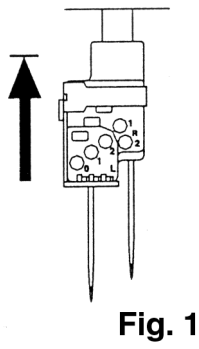
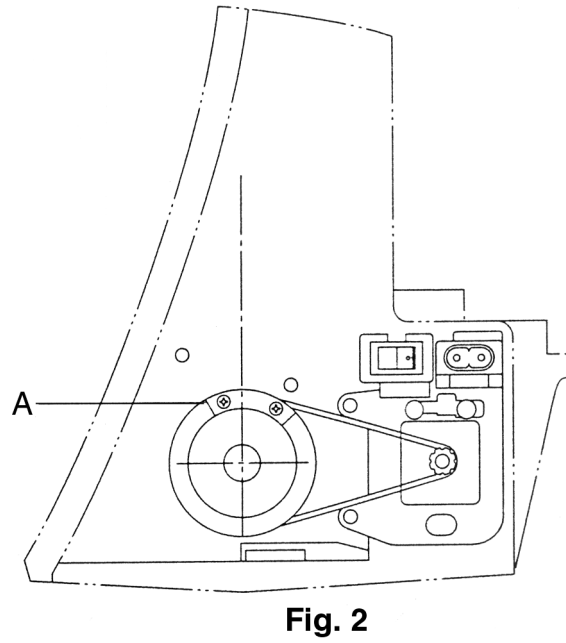

Fig. 1
Fig. 2
2. Turn the handwheel in the normal direction until the needle bar is at its highest point (fig. 1). Check the position of the counterweight A in accordance with fig. 2.